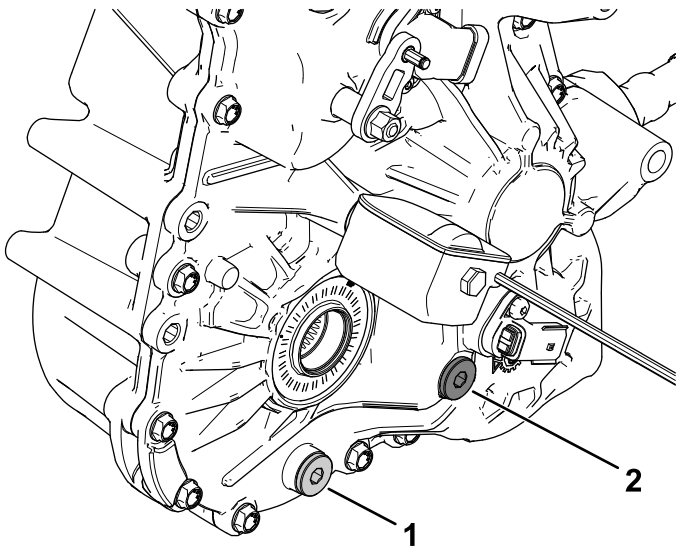

Figure 122
4. Remove the fill plug on the transaxle (Figure 122).
5. If the fluid level is low, remove the fill plug and add the specified fluid until it runs out of the hole (Figure 122).
1. Align a drain pan under the drain plug (Figure 122).
2. Remove the fill plug (Figure 122).
3. Remove the drain plug, and allow the fluid to drain completely (Figure 122).